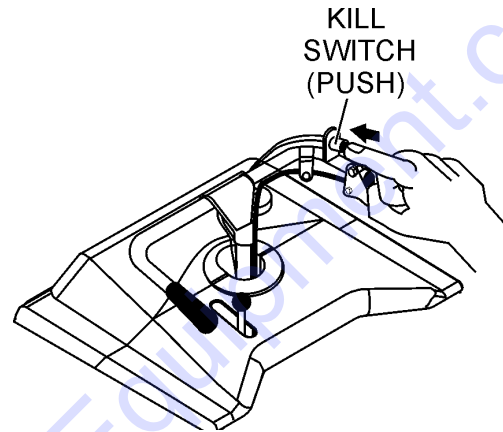

Figure 26. Safety Kill Switch
1. Push the power buggy's kill switch inward (Figure 26) and listen for the engine to stop.